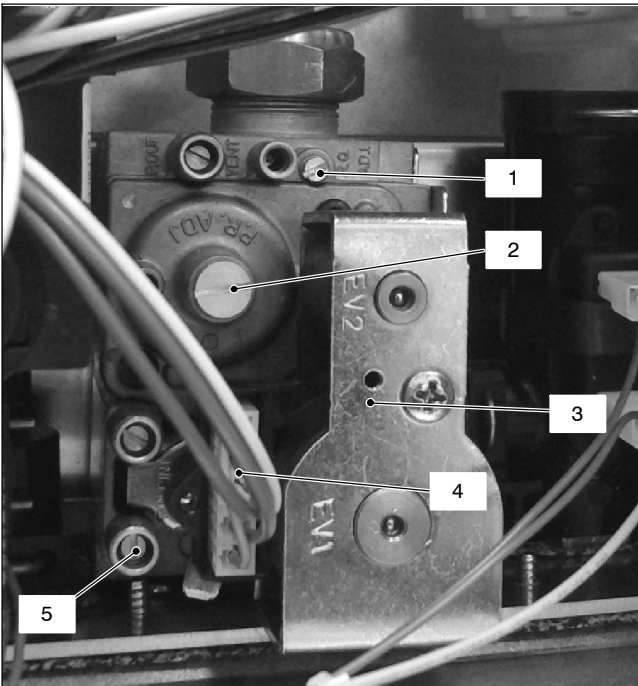

Fig. 11.2
11.2 Description of the parts (Fig. 11.2)
- 3 Loosen the internal screw on the Inlet Pressure Test Point 5 (Fig. 11.2) of the Gas valve and connect a pressure gauge using a suitable hose.
- 10 Disconnect the pressure gauge and close the Inlet Pressure Test Point 5 (Fig. 11.2).
To adjust the CO₂ % value remove the brass plug by unscrewing it and rotate the Allen key screw \varnothing 4 mm (2 – Fig. 11.2) (by rotating it clockwise the CO₂ % increases).
To adjust the CO₂ % value rotate screw (1 – Fig. 11.2) (by rotating it clockwise the CO₂ % decreases).
- 26 After adjustment fit the protective brass plug (2, Fig. 11.2).
- 2 Disconnect the electrical connector 4 (Fig. 11.2).